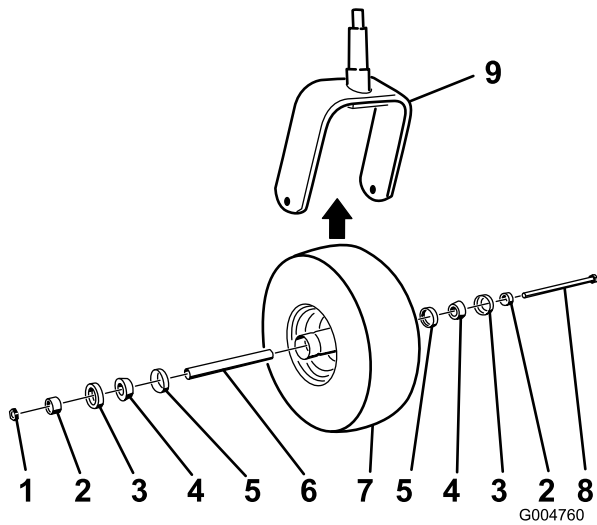

Figure 52
2. Remove the locknut from the bolt holding the caster wheel assembly between the caster fork (Figure 52).
5. Assemble the castor wheel by pushing the cone bearings and seals, packed with grease, into the wheel hub, positioned as shown in Figure 52.